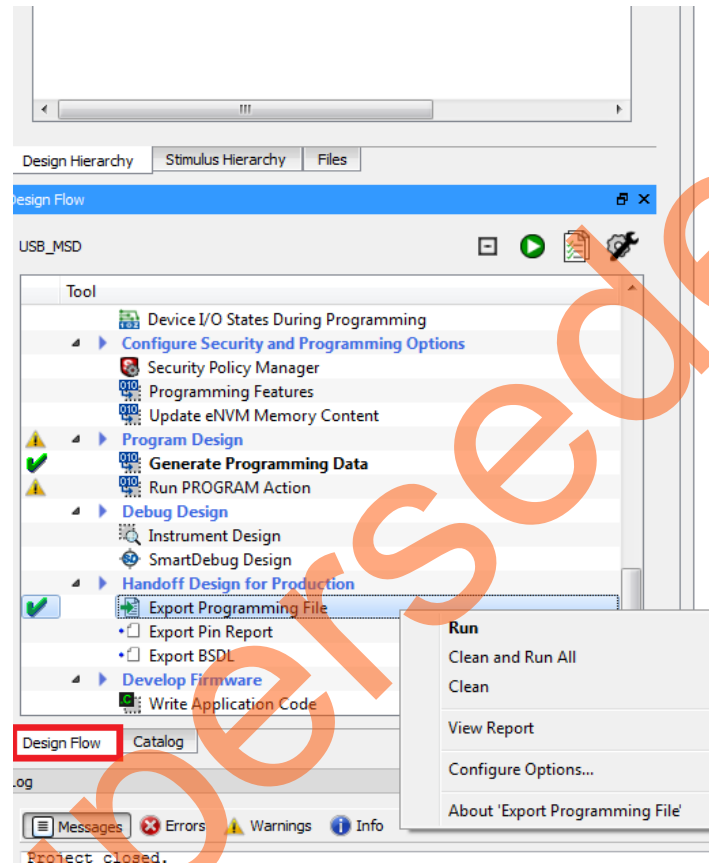
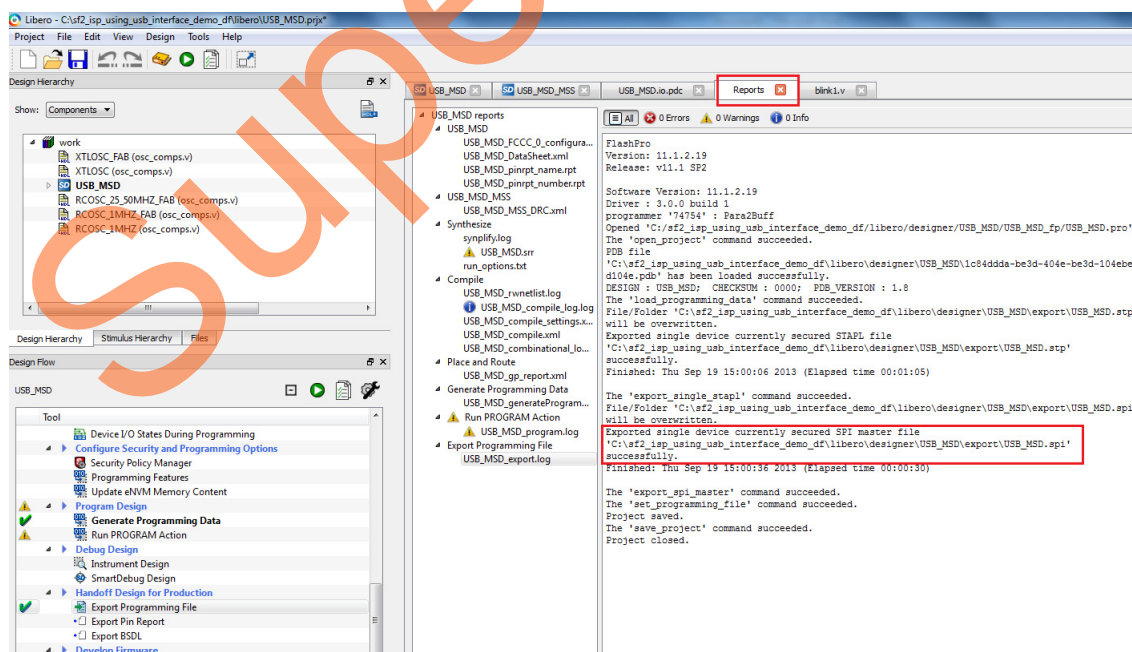

Figure 19 • Configuring Export Programming File
Figure 21 • .SPI File Location
- Double-click **Export Programming File** under **Handoff Design for Production** in the **Design Flow** tab to generate the .spi file (Figure 19 on page 25). Figure 21 shows the .spi file location in **Reports** tab.